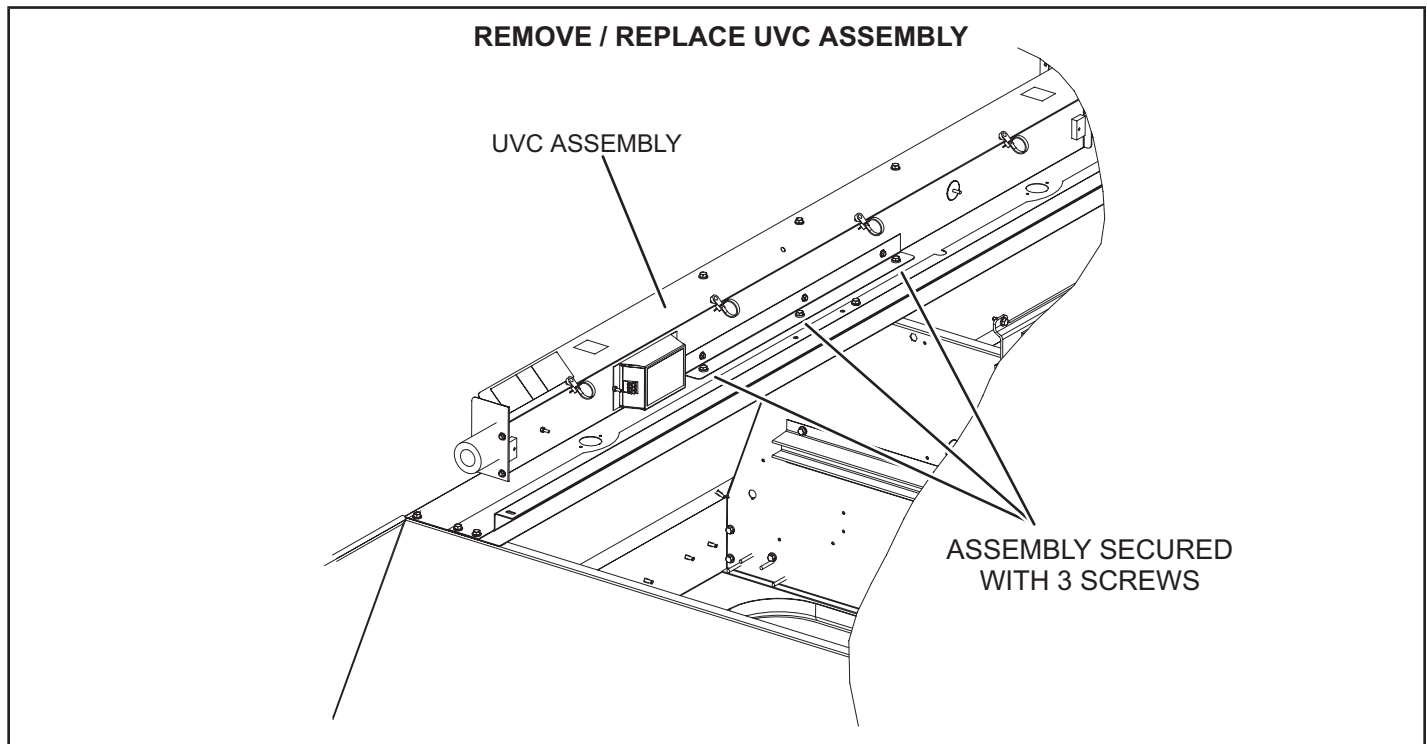

FIGURE 30
- 5 - Remove and retain the (3) mounting screws securing the UVC assembly. Carefully remove the complete UVC assembly out through the blower access door. See FIGURE 30.